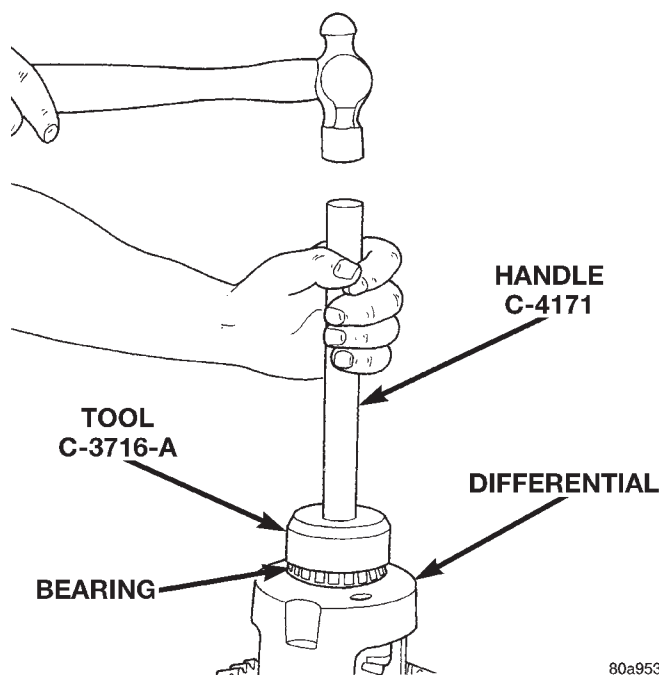

Fig. 21 Install Differential Side Bearings
- (1) Using tool C-3716-A with handle C-4171, install differential side bearings (Fig. 21).
- (2) Install differential in axle housing.